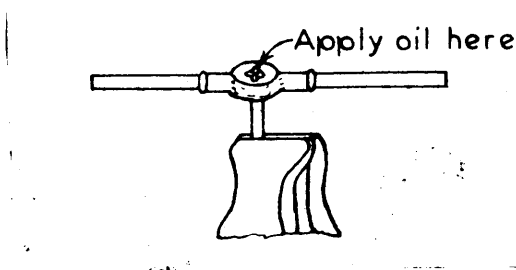

Figure 5.
3. Make sure that the die is level and that the threads are started even, that is, do not have the threads crooked. Exert equal pressure on each handle. Make a downward turn first to get thread started. (Figure 5).
4. Make about two turns forward, then turn left one-half turn and apply lubricant in the die, this will permit the oil to soak down through the threads. (Figure 5).